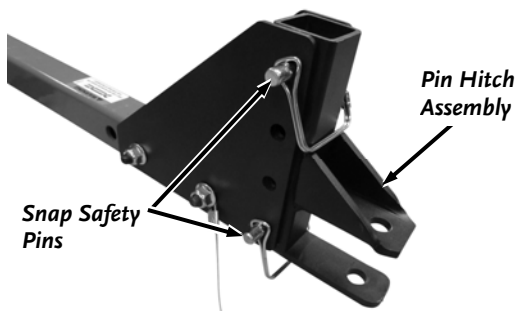

Figure 14
16. Position the Pin Hitch Assembly between the Hitch Adjustment Brackets and secure with two Snap Safety Pins (**Figure 14**).